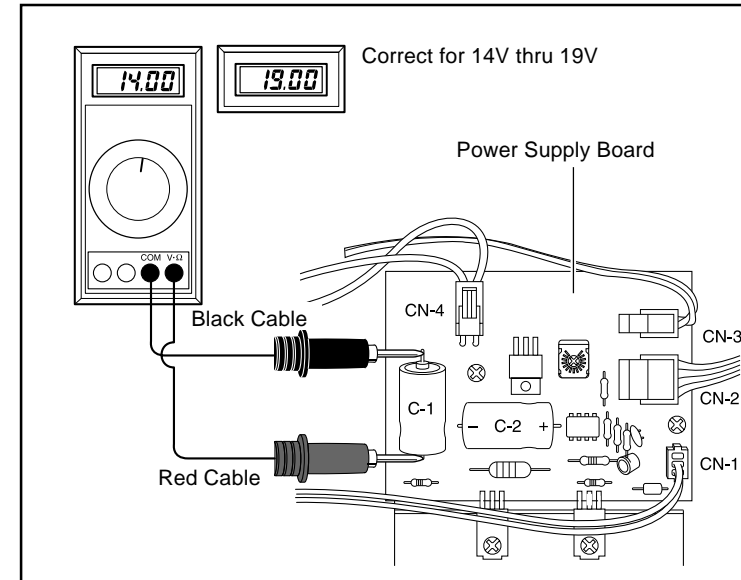

Fig. 4
2. With the control unit removed, connect the AC adapter, and turn on the power switch. Measure the voltage across the electrolytic capacitor C1 on the power supply board (25V 1000μV). (Fig. 4)
Replace the power supply board. (See the Section ES-3 "Replacing the Power Supply Board." "Fig. 4